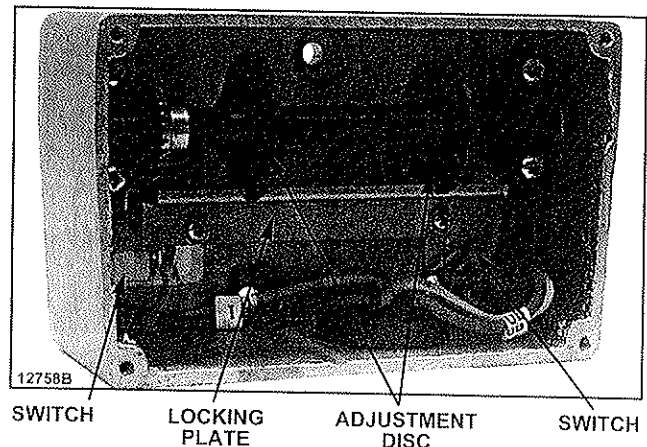

Figure 7-2. Screw-Type Limit switch Adjustment (Wires Not Shown For Clarity.)
- (7) Retighten cam clamping screws, fold down insulating shields and replace cover.
- b. This limit switch has a rotary screw driven by a gear reduction which is coupled to the end of the drum shaft. Adjustment discs operate the contacts of separate switches; one for the hoisting circuit and one for the lowering circuit. The switch assembly must be wired in accordance with the appropriate wiring diagram, which is shipped with the hoist. Instructions for adjusting limit switch are inside switch cover and are repeated below (see Figure 7-2).